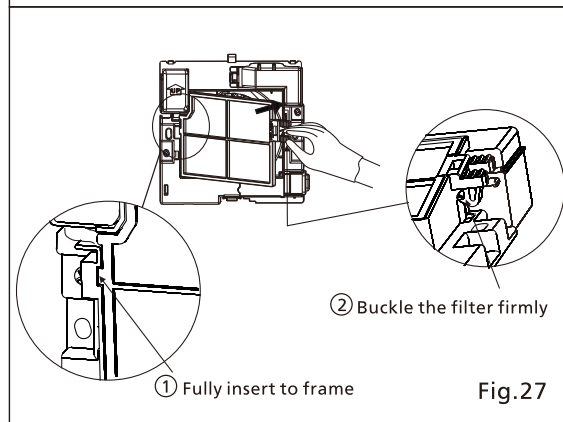

Fig. 27
5. Replace the filter after finishing the cleaning. (Fig.27)